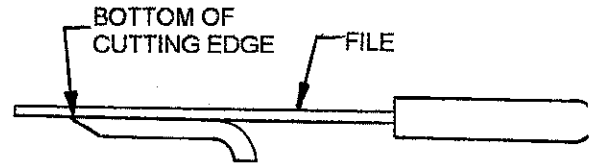

FIG. 10
E. When the blade has been sharpened, stroke a flat file across the bottom of the cutting edge to remove any burr buildup. (FIG. 10)